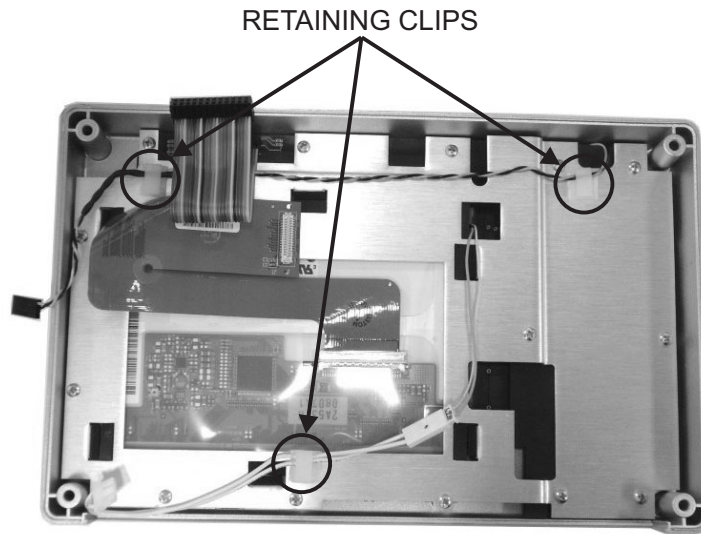

Figure 9. *Retaining Clips*
1. Remove the wire harnesses from under the plastic retaining clips of the metal backing plate (Figure 9).